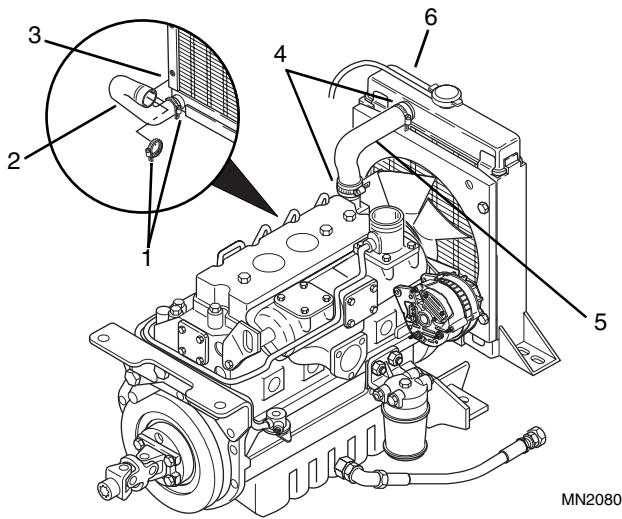

Figure 10-36 Radiator Hose Installation
1. Place two hose clamps (Fig. 10-36, 1) on the lower radiator hose (2), and loose fit the hose to the radiator (3).
2. Place two hose clamps (Fig. 10-36, 4) on the upper radiator hose (5), and loose fit the hose to the radiator (6).